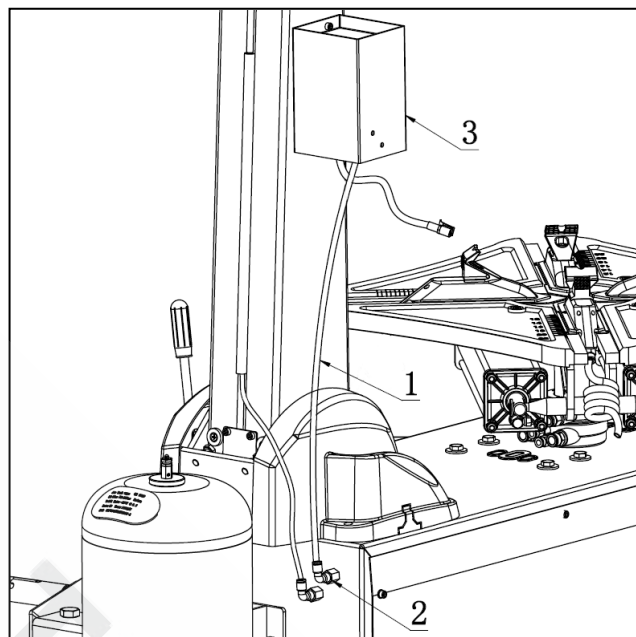

FIG16
- Install the inflation gauge (FIG16-3): fix it to the installation hole at the side of column using two pcs M6 screws. Then connect the  $\phi 8$  hose (FIG16-1) on inflation gauge to the elbow (FIG16-2) on the machine body back (FIG16).